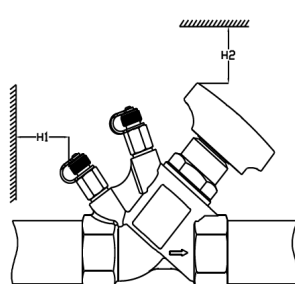

Figure 2
8. Please reserve debugging space during installation, see the Fig.2 and Fig.3:
2. Open valve to the preset value. (Figure 2)
How to check the preset value: close the valve and the reading is 0.0 ring. Turn handwheel until stopping and the reading is default value (It is 4.5 ring, see figure 2).